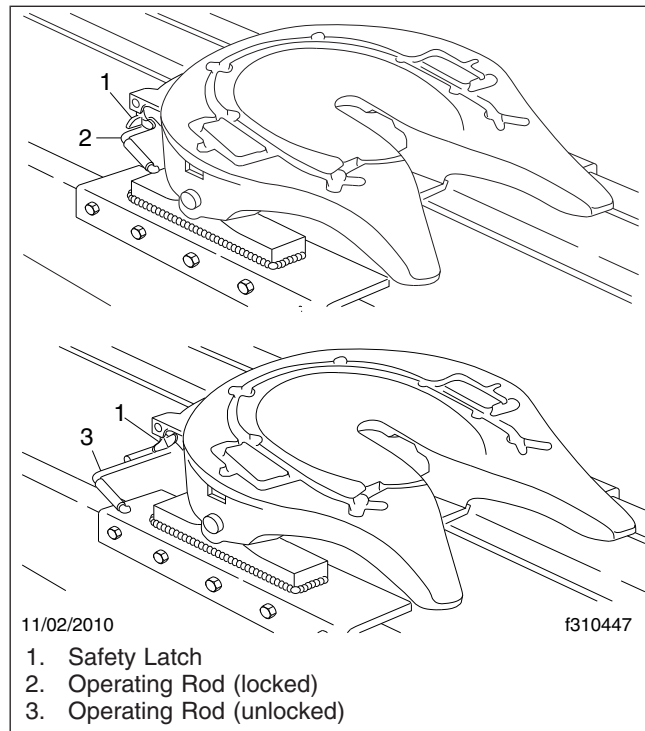

Fig. 10.11, Simplex Kingpin Locking Mechanism, Locking and Unlocking
Placing the operating rod in the lockset position moves the lock away from the jaw. This action unlocks the jaw so that it can be rotated by movement of the kingpin. When the tractor is moved out from under the trailer, the kingpin will rotate the jaw until the jaw is in the unlocked position, allowing the kingpin to move out of the mechanism. With the jaw in the fully open position, the operating rod drops out of the lockset position, and the fifth wheel is ready for coupling. See **Fig. 10.11**.
6. *If equipped with a manual kingpin lock release:* Release the kingpin lock mechanism by raising the safety latch to the rear and pulling the lock operating rod out and up into the lockset position. See Fig. 10.11. The offset of the lock control upper rod should bottom against the plate casting above the hole. If the operating rod cannot be pulled to the lockset position, back the tractor slightly to release the kingpin force against the jaw.
If equipped with an air-operated kingpin lock release: Pull the air-release knob on the dash. *From outside the cab,* visually check that the operating rod has bottomed out against the plate casting above the hole. See Fig. 10.11. If the operating rod isn't in the unlocked position, back the tractor slightly to release the kingpin force against the jaw.